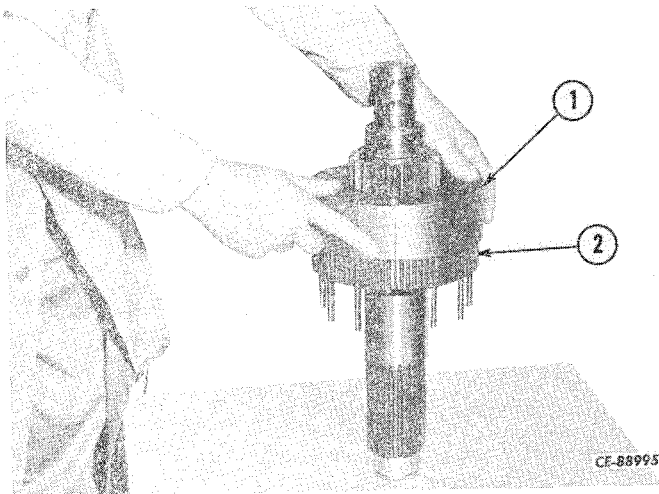

Figure 4-131
Install the backing plate (1, Fig. 4-131) on the clutch cylinder (2) matching the timing marks made during disassembly.